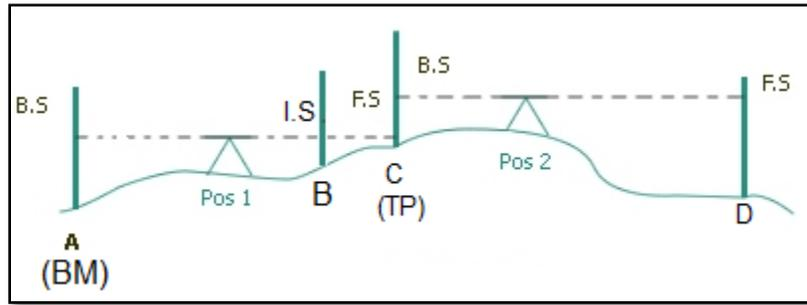

Figure 2: Leveling procedure
1. Place the staff over a bench mark (BM), whose reduced level is known, and set up the instrument in convenient and safe location where the BM (point A) is visible. Take a sight on the staff, that reading is called backsight (B.S). See Figure 2
2. Place staff over B. Take a sight on the staff, that reading is called Intermediate sight (I.S). See figure 2
3. Place staff over C. Since the distance between the level and D is long, so it is not possible to read the staff over D from the current level position (pos 1). So take the last reading over C for this position, this will be a foresight (F.S). See figure 2
4. Now, move the instrument to a new position (position 2) and take the reading on the previous position of the staff (over C). This position of staff is known as Turning Point (T.P) and this reading will be backsight (BS). See figure 2
5. Now, shift the staff to the point D and take reading, this reading will be foresight (F.S). See figure 2